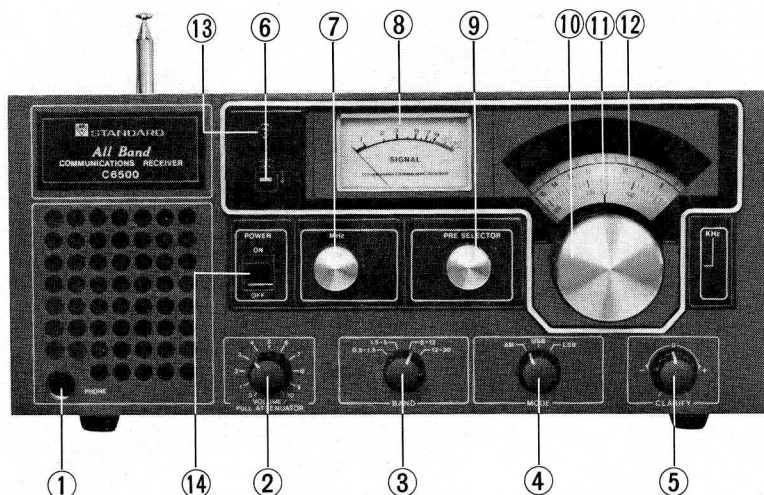

FIG 1
The receiver can be turned on by power switch knob (14) in Fig. 1. The MODE selector knob (4) enables selection between AM and CW or SSB.
Tuning operation is achieved by turning the knobs (3), (5), (7), (9) and (10) in Fig. 1.